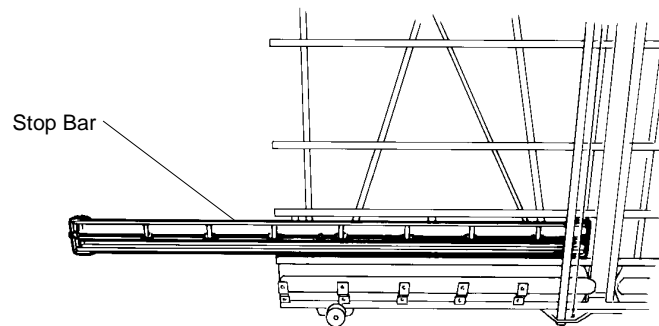

Figure 40: Installing the Stop Bar
1. Position the stop bar in the bottom left side of the frame as shown in Figure 40, resting against the bottom horizontal arm and the vertical back supports.